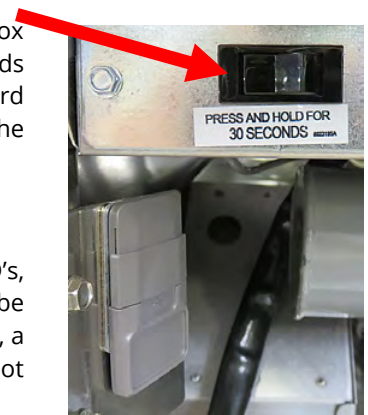

Figure 31
The control power switch is a rocker switch, located on the front of the left control box above the USB port (see Figure 31), that controls all power to all the controllers and boards in the fryer. It is necessary to power cycle all power after replacing any controller or board and after any setup change. Turn off the switch for **thirty (30) seconds** when cycling the control power to ensure power has sufficiently drained from boards.